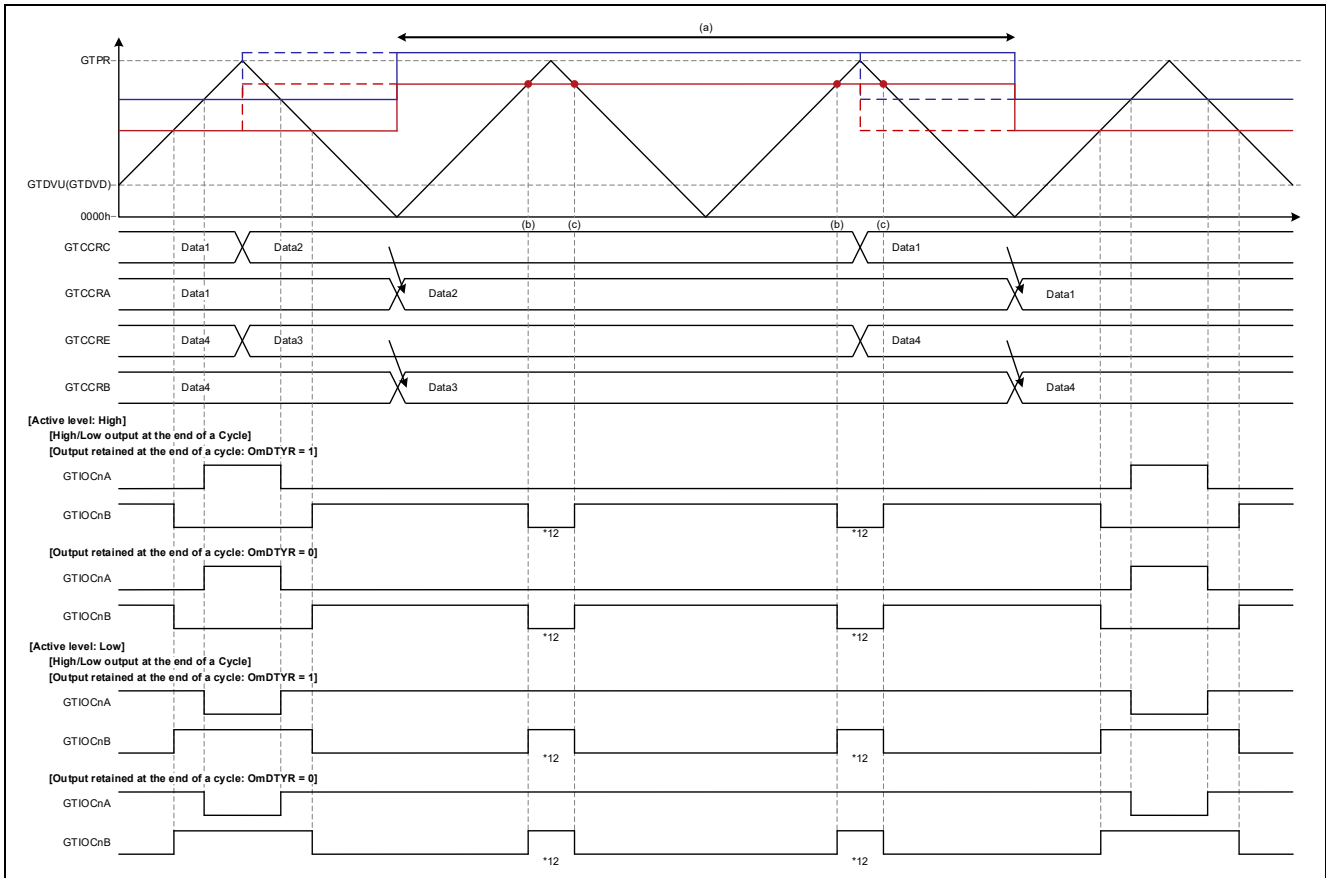
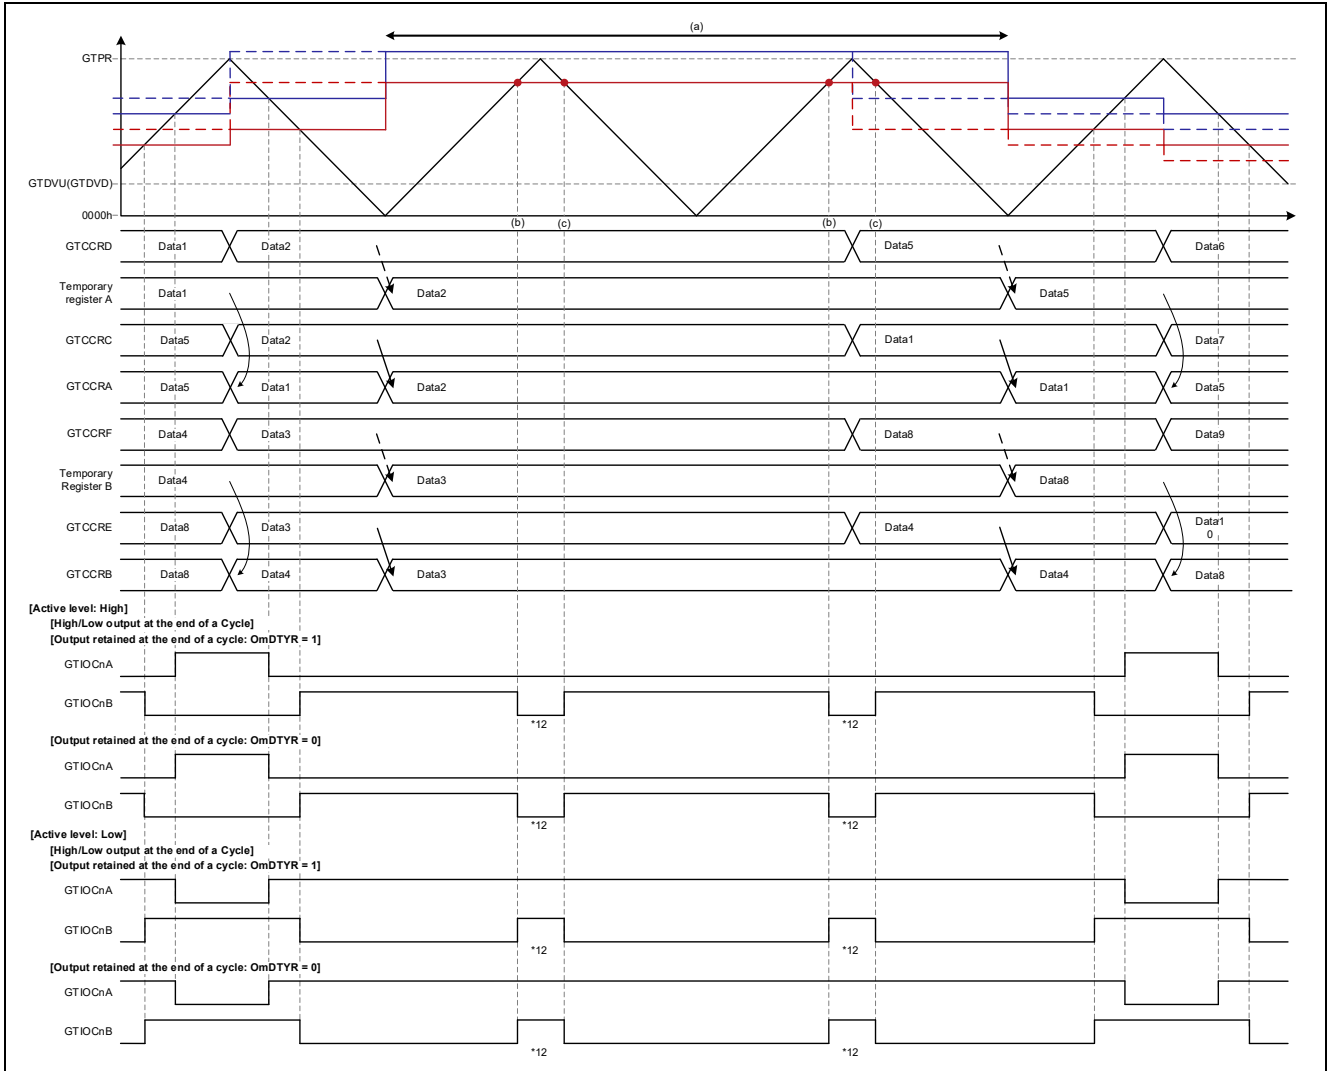

Figure 1.115 Triangle-Wave PWM Mode 1 Operation Example
Figure 1.117 Triangle-Wave PWM Mode 3 Operation Example
Operation examples when an abnormal value (value exceeding GTPR register setting value) setting is used as listed in Table 1.14, Figures Showing Output Waveforms, are shown in Figure 1.115 to Figure 1.117 and applicable cautions are described below.
- Operation Example 1: Figure 1.115 Triangle-Wave PWM Mode 1, Abnormal Value (Transfer at Trough)/Normal Value (Transfer at Trough), caution 12
- Operation Example 3: Figure 1.117 Triangle-Wave PWM Mode 3, Abnormal Value (Transfer at Trough)/Normal Value (Transfer at Trough), caution 12
Figure 1.115 shows an operation example of transfer of a value exceeding GTPR to GTCCRA via buffer transfer at trough in triangle-wave PWM mode 1.
Figure 1.116 shows an operation example of transfer of a value exceeding GTPR to GTCCRA via buffer transfer at trough in triangle-wave PWM mode 2. Except for the difference in the buffer overwrite timing and transfer timing, the operation is the same as that shown in Figure 1.115.
Figure 1.117 shows an operation example of transfer of a value exceeding GTPR to GTCCRA via buffer transfer at trough in triangle-wave PWM mode 3. Except for the difference in the buffer overwrite timing and transfer timing, the operation is the same as that shown in Figure 1.115.